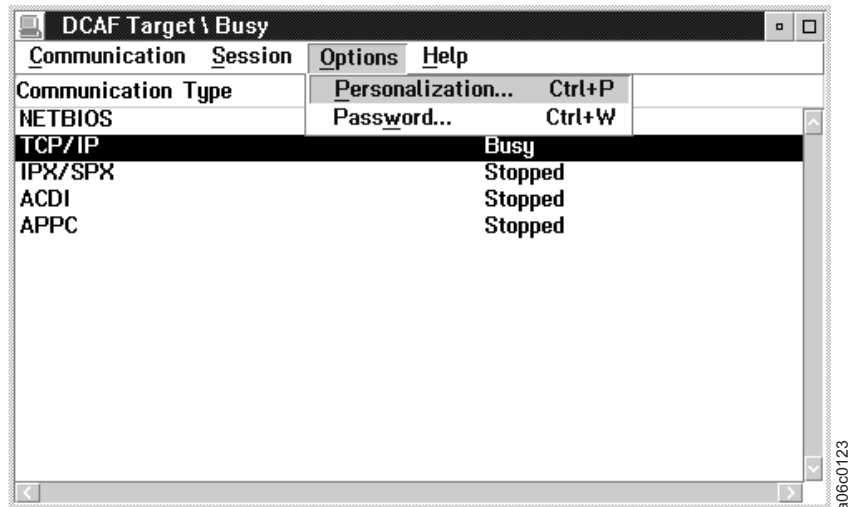

Figure 241. Options Menu
2. On the Options menu, select the **Password...** option in the DCAF Target \ Busy window (see Figure 241 on page 359).